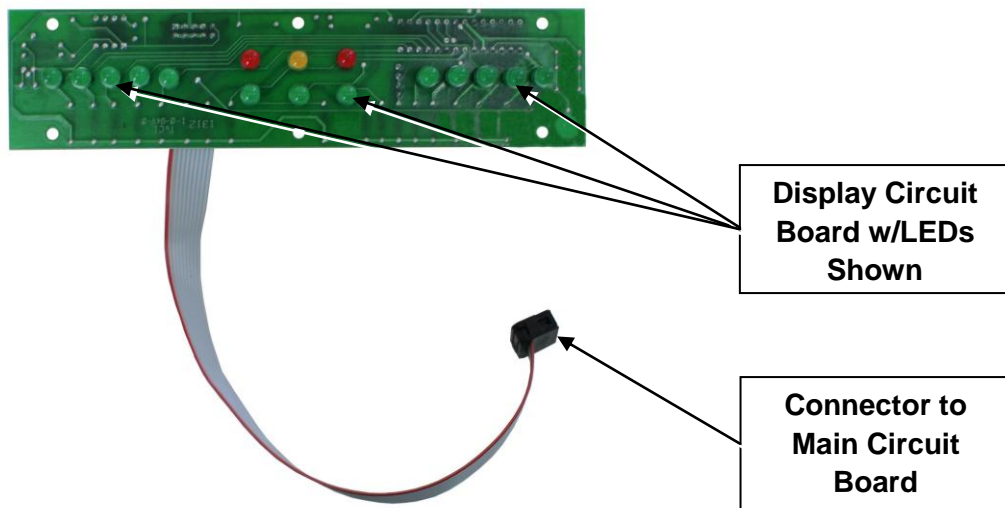

Figure 9: Display Circuit Board
2.4 DISPLAY CIRCUIT BOARD – The display panel, pictured in Figure 8, uses the circuit board shown in Figure 9 to monitor both the output current and battery voltage. In addition, various operating states and conditions are displayed and provide a real-time status of the XUPS' operation.